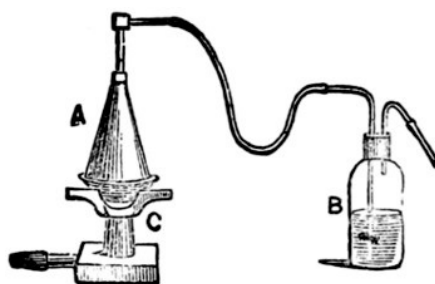

Fig. 9.
The material most convenient for obtaining oxygen gas for lime-light purposes is chlorate of potassa. Two parts of this material (by weight) is mixed with one part of powdered black oxide of manganese (this is known as 'oxygen mixture'). The oxide of manganese does not supply any of the oxygen, but its presence facilitates the decomposition of the chlorate of potassa. The apparatus used for generating the gas is shown at Fig. 9. It consists of a copper or iron vessel (A), forming the retort or generator, a glass bottle-shaped vessel (B), which is the purifier, the two being connected together by a flexible tube. It will be seen that there are two tubes proceeding from the top of the purifier, one of which reaches nearly to the bottom of the vessel, and the other only just enters into the top. The former, or long tube, is the tube by which the purifier is attached to the retort; the latter, or short tube, is that which connects the purifier with the bag.